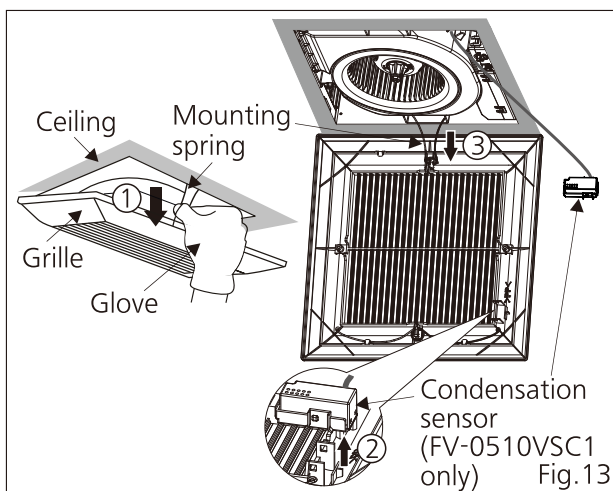

Fig.13
For model FV-0510VSC1 please **remove one mounting spring from the grille on the condensation sensor side**, then remove condensation sensor and the other mounting spring as show in Fig.13 ① ② ③ in P.10.